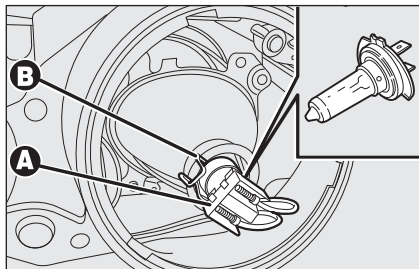

fig. 29
- disconnect the electric connector **A-fig. 29**;
- fit the new bulb and refit bulb holder catch **B-fig. 29**;